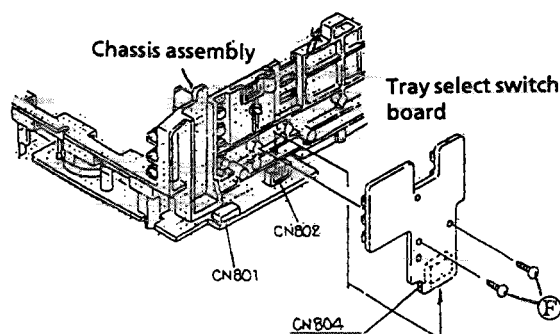

Fig. 2-14
5. Remove 2 screws ② securing the tray select switch board. (See Fig. 2-14.)